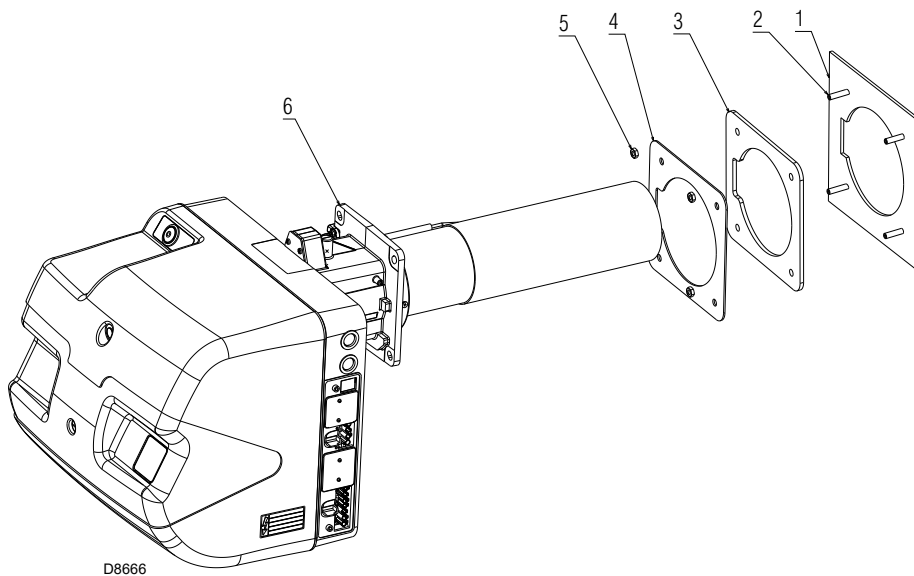

**Fig. 15**
- Connect the high voltage cables to the transformer 3)(Fig. 15), and the ionisation probe lead to the appropriate cable emerging from the control box.
- Fix the gas train unit 4)(Fig. 15) and the gas pipe (5) with the screws, nuts and the washers supplied as standard equipment. Interpose the gaskets (7) as in Fig. 15.
- Assemble the pilot train supplied as standard 6)(Fig. 15).
- Insert the pilot train 6)(Fig. 15) on connector 8) and tighten the nut fully home.
Be aware of the presence of the gasket 7)(Fig. 15) and the gas seal.
Use a suitable sealant and check the general gas seal during operation, in particular with respect to tube 5)(Fig. 15).